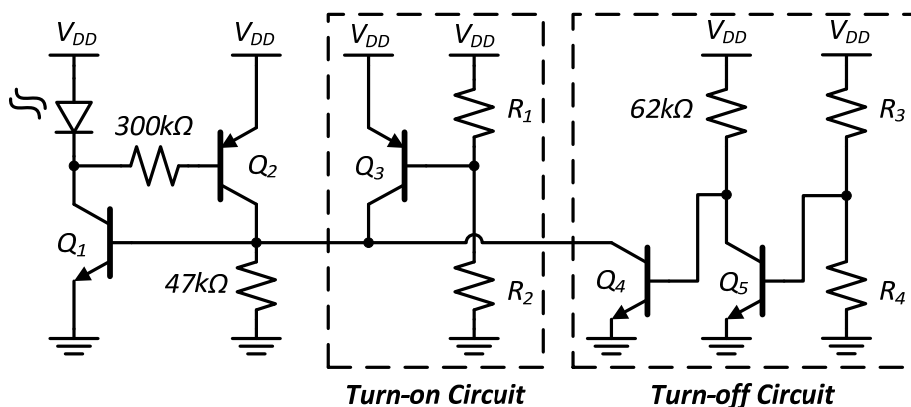
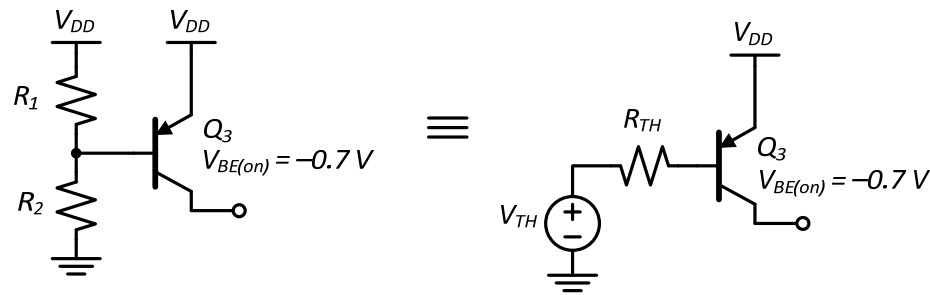
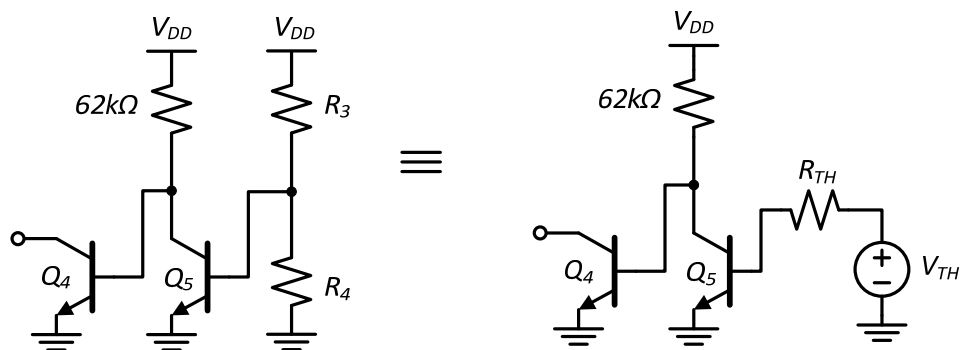

Figure 4. Complete switching circuit.
Figure 5. Turn-on threshold detection circuit.
Figure 6. Turn-off threshold detection circuit.
- P3.2** The complete circuit is shown in Figure 4. The bi-stable LED circuit is forced into the “on” mode by driving current onto the $47k\Omega$ resistor with the PNP transistor Q_3 . The circuit shown in Figure 5 will be used to detect the turn-on voltage threshold (Table 1). The PNP device is defined as on when the base-emitter voltage reaches $-0.7V$. Derive expressions for R_{TH} and V_{TH} in terms of V_{DD} , R_1 , and R_2 . Determine values for R_1 and R_2 that will turn on the PNP when V_{DD} reaches the turn-on voltage (ignoring base current). Take into account the specification on total power consumption when choosing resistor values.
- P3.3** The bi-stable LED circuit is forced into the “off” mode by using Q_4 to pull down the base voltage of Q_1 in Figure 4. The circuit shown in Figure 6 will be used to detect the turn-off voltage threshold (Table 1). When V_{DD} drops below the turn-off threshold voltage, Q_5 turns off and Q_4 turns on, forcing the LED circuit to the off mode. The NPN is defined as on when the base-emitter voltage reaches $0.7V$. Derive expressions for R_{TH} and V_{TH} in terms of V_{DD} , R_3 , and R_4 . Determine values for R_3 and R_4 that will turn on the Q_5 when V_{DD} equals the turn-off voltage (ignoring base current). Take into account the specification on total power consumption when choosing resistor values.
- P3.4** Open Cadence and create a new cell in your *lab3* library called *ledcontrol*. Build the circuit shown in Figure 4, using resistor values found in the previous parts. Use the *lab3_led* component found in the *EECS311Lib* library for the LED. For the NPN devices, use the *AnalogLib > npn* component. Give each npn a model name of *2n3904_typical*. For the PNP devices, use the *AnalogLib > pnp* component. Give each pnp a model name of *2n3906_typical*. Do not add a voltage source for V_{DD} yet.
- L3.1** Build the circuit shown in Figure 4 using the component values found in the prelab. For now, wire all V_{DD} and ground pins together, but do not connect them to any supply or to your rectifier circuit from Part 1.